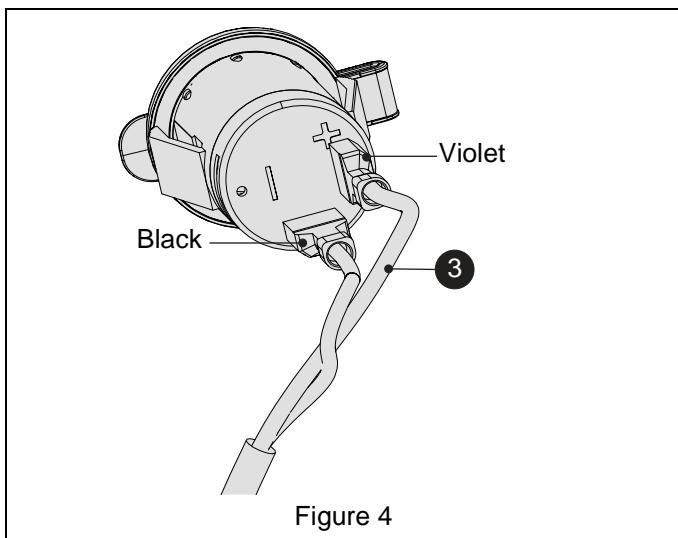

Figure 4
3. Connect accessory harness (item 3) to power port. Connect violet wire to positive (+) terminal and black wire to negative (-) terminal on 12V power port switch. See Figure 4.